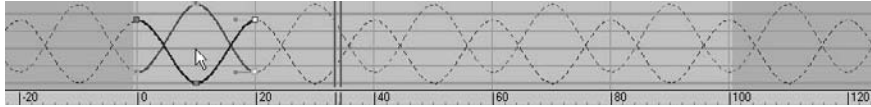

Figure 8.32
- In the Mini Curve Editor’s menu bar, select Controller → Out-of-Range Types. Choose Loop, and then click OK. Play the animation. The curves are shown in Figure 8.32.